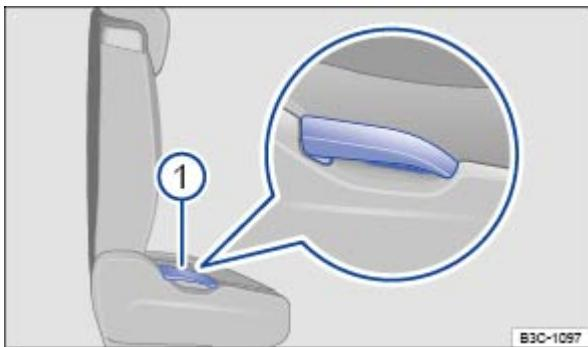

Fig. 77 In the second row: Lever to release the second row seat backrest.
- Pull up the lever completely \Rightarrow Fig. 77① and fold the second row seat backrest forward until it locks in place \Rightarrow .